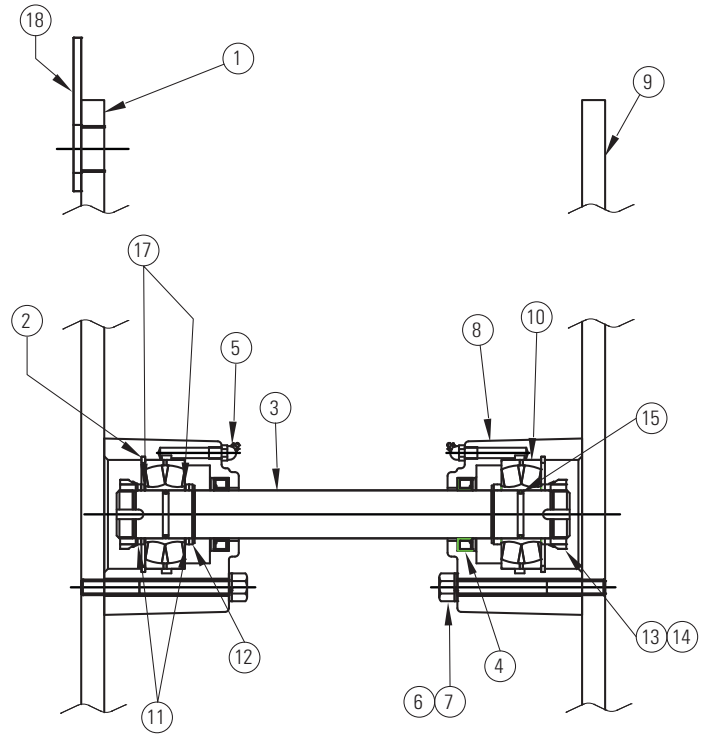

Figure 8
- 2.5.3 Referring to Figure 8, the overall length of the axial locking device can be adjusted by relocating shims (11 / 17) from one side of a bearing to another.